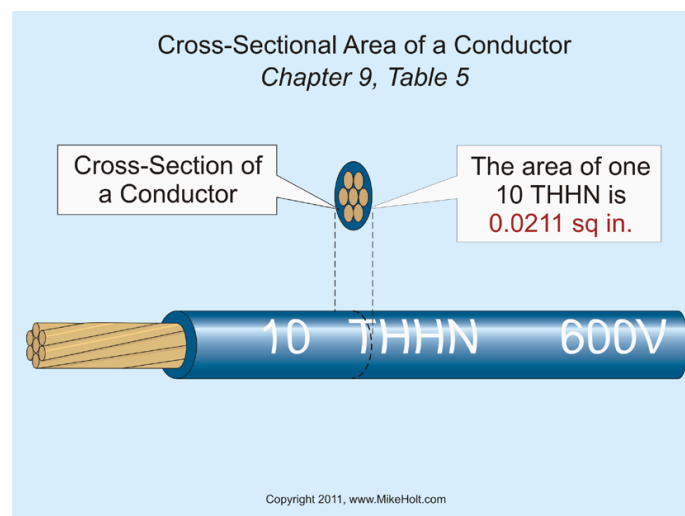

Figure 5-19
**Question:** What's the cross-sectional area for one 10 THHN conductor? **Figure 5-19**